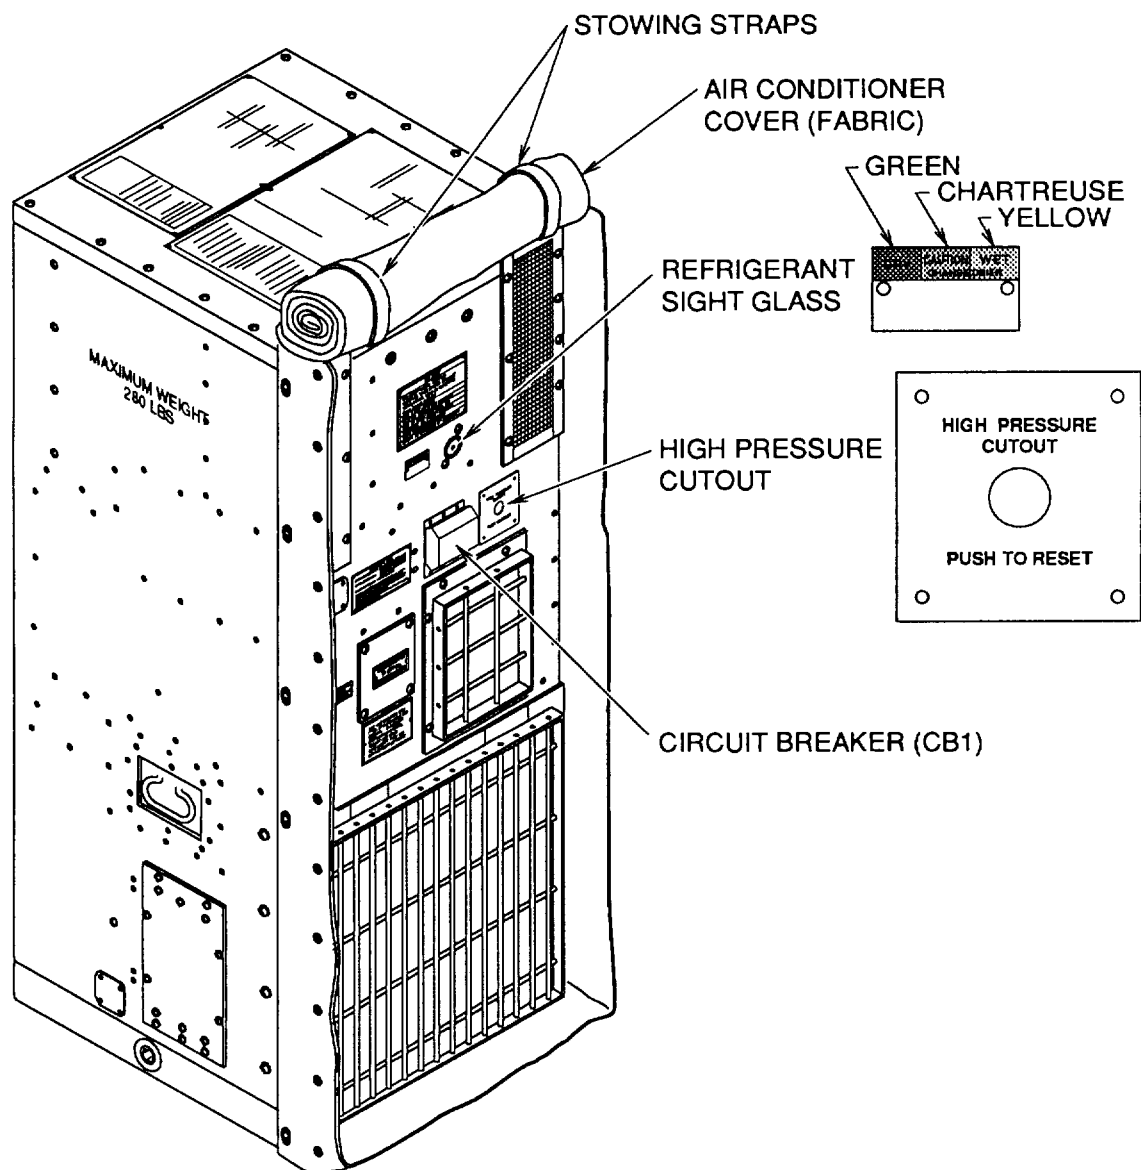

Figure 2-2. Operator's Controls Rear
- e. The refrigerant sight glass (figure 2-2) has a small chamber with a glass window through which the refrigerant condition can be observed. It is installed in the liquid refrigerant line downstream from the condenser coil. Liquid refrigerant actually flows through the sight glass chamber only during cooling cycles when the air conditioner is in operation in the COOL mode. The unit must be operated approximately 15 minutes at maximum cooling prior to checking condition of refrigerant at sight glass. The sight glass is equipped with a center indicator that is moisture sensitive. Dry refrigerant is indicated by green, it turns to chartreuse when the moisture content becomes undesirable, and to yellow when the level becomes unacceptable. Excessive moisture in the refrigerant may damage or possibly destroy the compressor. If the liquid refrigerant observed in the sight glass has a milky appearance, or frequent bubbles appear, the volume of refrigerant is low and the system should be charged. Either moisture or low charge indications should be reported to supervisor.